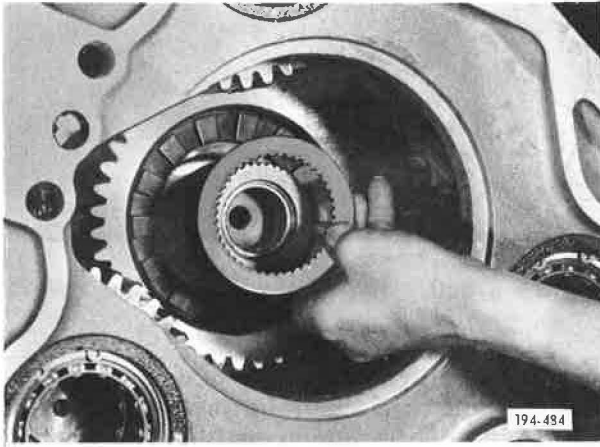

Figure 5-623. Installing Lo-Range Gear Front Thrust Washer
12. Through rear case front opening install Lo-range gear front thrust washer and retain with Lo-range gear retaining snap ring. See Figures 5-623 and 5-624.